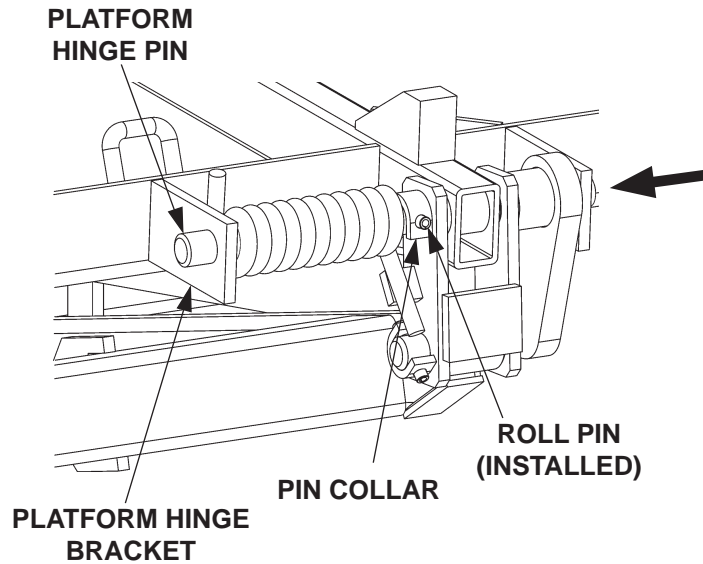

FIG. 20-1
6. Drive platform hinge pin inboard to correct position through the platform hinge bracket (**FIG. 20-1**). Line up the hole in the platform hinge pin with the hole in the pin collar. Install the roll pin through the pin collar until roll pin protrudes equally from both sides of the collar (**FIG. 20-1**).